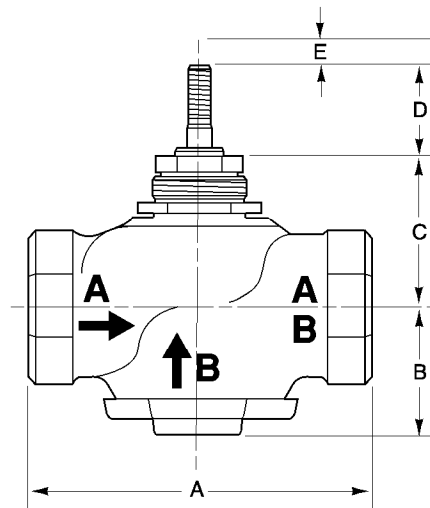

Figure-8 Typical of VB-7315-0-4-P Valve Bodies.
**Table-8 Dimensions for VB-7315 Series Valves (Figure-8).**